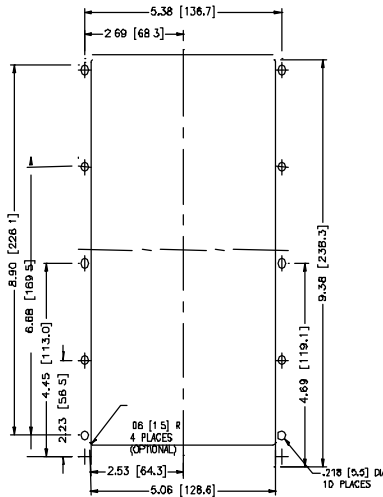

Figure 3.1 Mounting holes for the IQ 300 Display Module.
Since the IQ 300 is typically mounted on an enclosure door, it is necessary to prepare a cutout in which it will be placed. The dimensions for this cutout along with mounting hole locations are shown in Figure 3.1. Note that the IQ 300 actually has ten mounting holes. Normally the top, bottom and center holes are used for a standard installation. If the installation is to be in a NEMA 3R or 12 inclosure, additional mounting holes are provided so that uniform pressure can be maintained on the gasket all the way around the unit.
**Display Module** Cut a 5.38 in. wide by 9.38 in. high cutout in the switchgear door or other panel where the IQ 300 is to be mounted as shown in figure 3.1. Install the IQ 300 Display Module as shown in figure 3.1, following these steps: